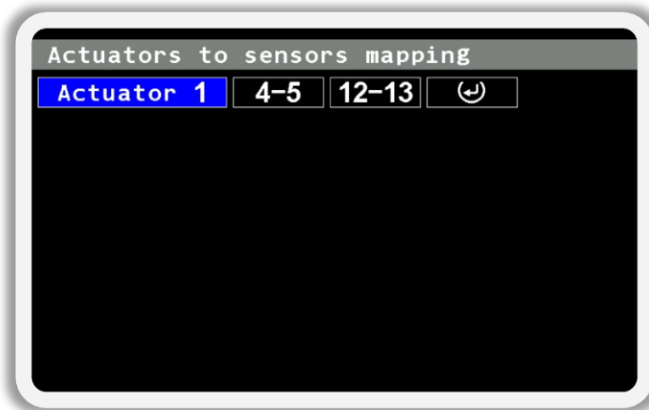

Figure 65 The screen for setting the relation of section sensors to actuators
11.7.1.5.  **Relation of sensors to actuators** - brings up a screen intended for matching seed sensors or dry fertilizer sensors with actuators (see Figure 65). This relation determines which section control sensors should be switched to the tramline control mode at the time when the actuator rod is moved to the tramline making position (this is the state when the actuator stops application of a product by cutting off certain sections).